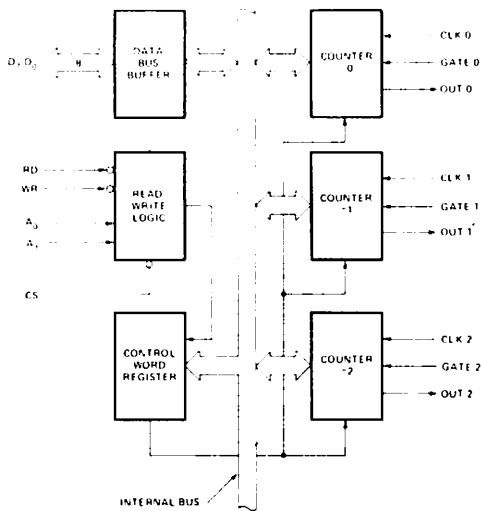

Figure 1. Block Diagram
- 1 AC timings measured $V_{OH} = 2.0 V_{OL} = 2.0, V_{OL} = 0.8$, and with load circuit of Figure 1
- 2 Chip Select (CS) and Command Data (C/D) are considered as Addresses.